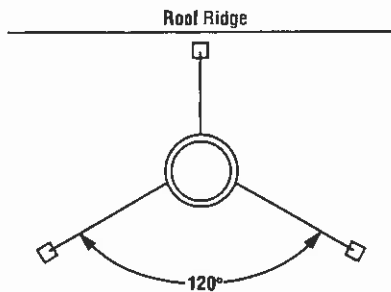

Figure 32
**Note:** If chimney extends more than 8' (2.4 m) above roof surface, guy wires are also recommended. Use three (3) guy wires, attach to locking band assembly, extend and secure to roof in a triangular pattern (Figure 32). Guy wires are not supplied by Superior.